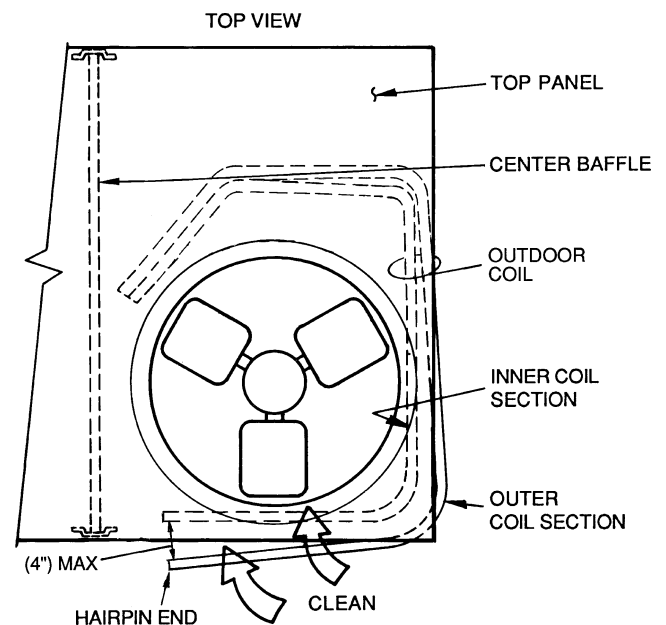

Fig. 37 — Separating Coil Sections
4. Remove device holding coil sections together at return end of outdoor coil. Carefully separate the outer coil section 3 to 4 in. from the inner coil section. See Fig. 37.